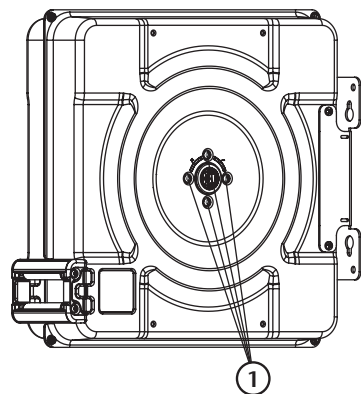

Fig. 6
- Take away the bolts (1) (fig. 6) which are used to hold the spring fixation. Doing this, the spring fixation will be free to rotate, avoiding the spring of getting tension.